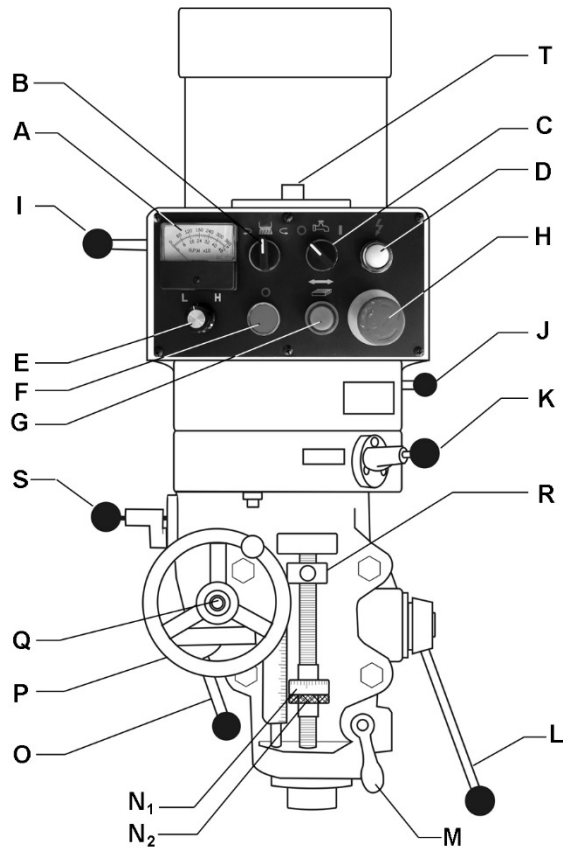
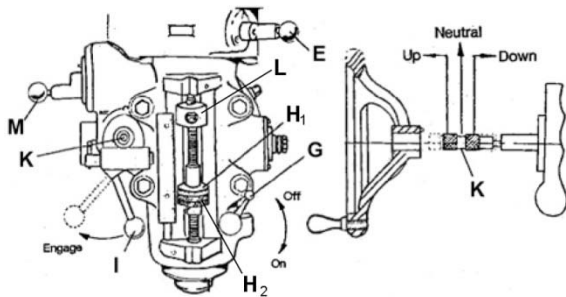

Figure 5: Controls
Figure 7: Manual feed controls
Refer to Figure 5.
1. Apply the spindle brake and loosen the draw bar two or three turns (counterclockwise) with the provided wrench placed over the draw bar hex (T, Figure 5).
To change from high to low speed range, push in lever (J, Figure 5) and rotate it almost 180 degrees. Lever will stay in position once pressure is released.
Refer to Figure 7.
1. Disengage automatic feed by pulling out knob (E, Figure 7) and moving lever to the right hole.
2. Position feed reversing knob (K) to the center, or neutral, position.
3. Engage feed trip lever (I) by pulling away from the head assembly.
4. The quill can now be moved up or down by turning handwheel (J, Figure 5).
3. Disengage feed trip lever (I) by pushing towards head assembly.
4. Use coarse feed handle (F, Figure 5) to move the spindle.
Refer to Figures 5 and 7.
2. Tighten quill lock (G, Figure 7).
3. Screw the micrometer nut (H_1) against quill stop (L), and tighten micrometer jam nut (H_2).
4. Loosen quill lock (G).
1. Ensure quill lock (G, Figure 7) is loosened by rotating counterclockwise.
2. Set micrometer nut (H) to desired depth.
3. Engage auto feed lever by pulling out lock knob (E) and moving lever to the left hole.
4. Select feed direction by setting feed direction knob (K) position per Table 2.
5. Select feed rate from feed selector knob (M) 0.0015", 0.003", and 0.006" per spindle revolution. It is easier to change feed rate while the spindle is turning.
6. Engage feed trip lever (I, Figure 7) by pulling away from head assembly.
3. Screw micrometer nut (H_1) against quill stop (L), and tighten micrometer jam nut (H_2).
4. Loosen quill lock (G), and engage auto feed lever (E).
5. Choose downfeed rate (M).
6. Engage feed reversing knob (K).
7. Engage feed trip lever (I).